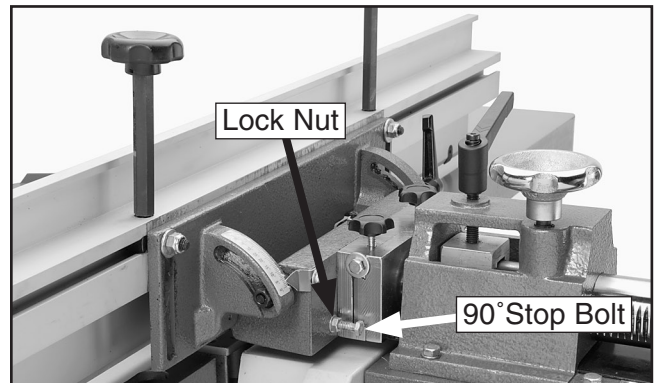

Figure 70. Adjusting fence to 90°.
1. Loosen the lock nut on the 90° fence stop bolt shown in **Figure 70**, and loosen the fence tilt lock.